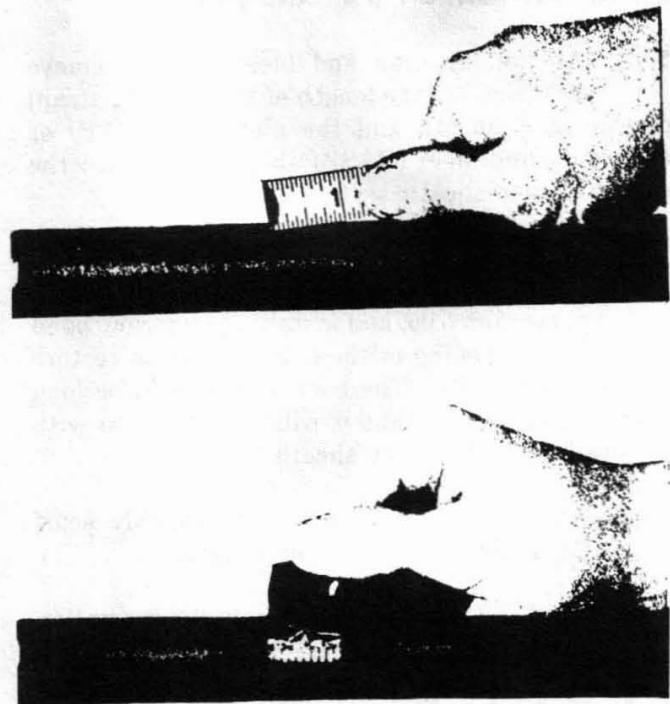

Fig. 20—Measuring and Removing Poly-Jacket
- (2) Cut out and remove a 1-inch square of the outer poly-jacket at the top of the cable in the center of the scuffed area (Fig. 20).